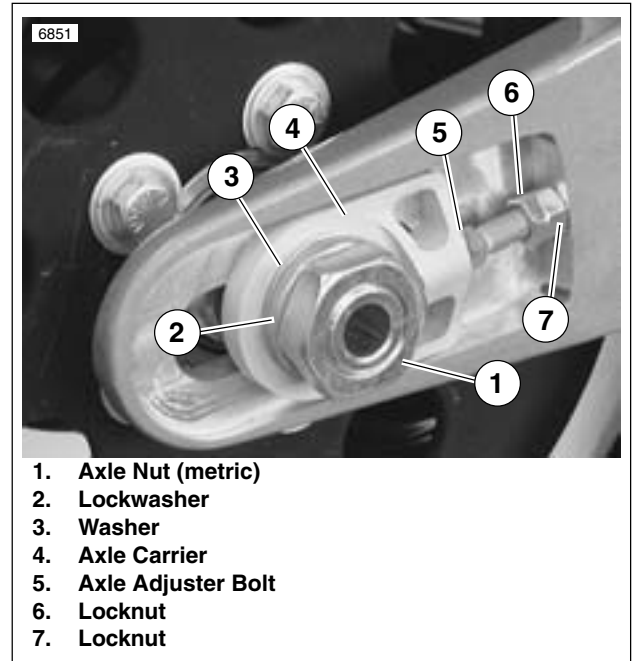
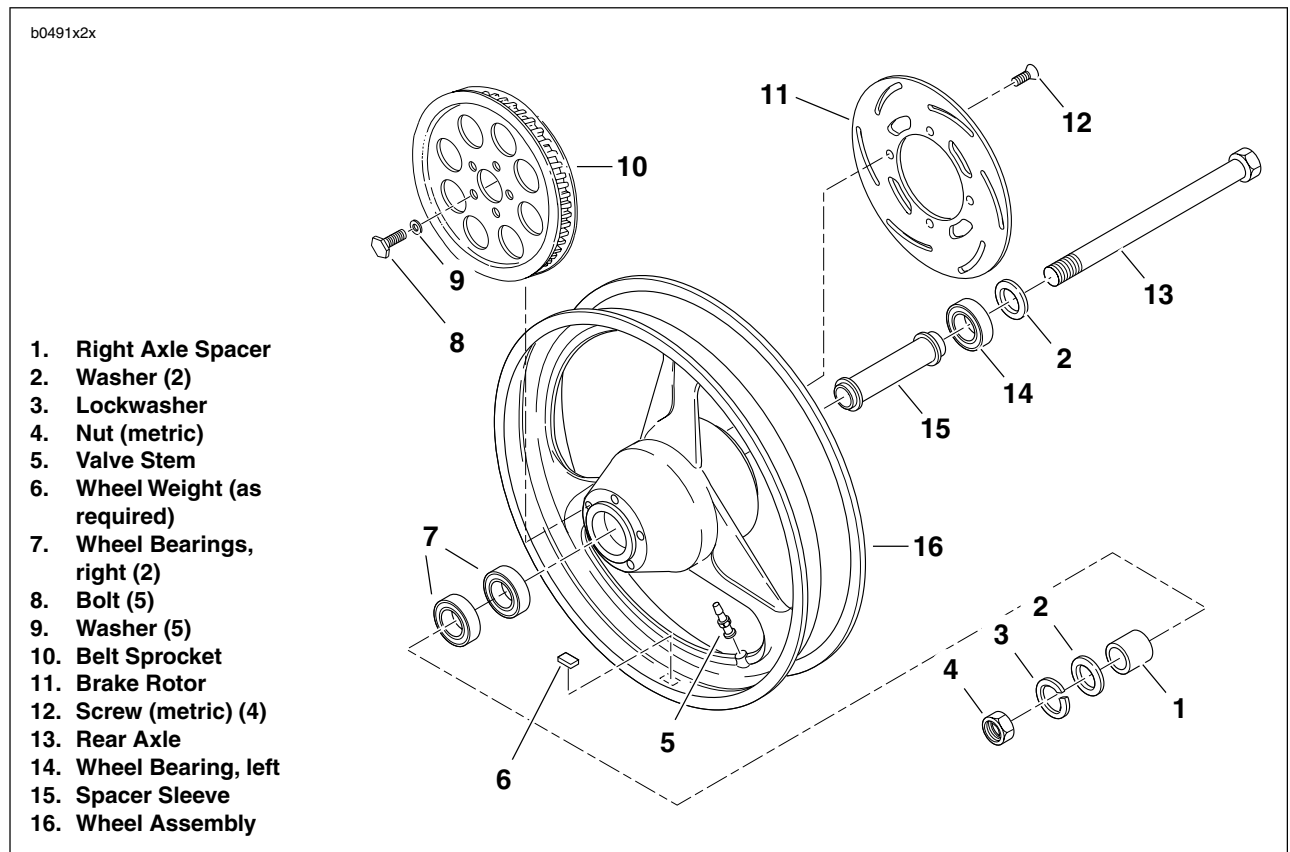

Figure 2-5. Rear Wheel Mounting
Figure 2-6. Rear Wheel
3. See Figure 2-5. Loosen rear axle nut (1) (metric).
4. Loosen rear axle adjuster locknuts (6, 7) and bolts (5) on both sides. Push wheel as far forward as possible.
6. See Figure 2-6. Remove rear axle nut (4) (metric), lockwasher (3), and washer (2). Pull axle (13) and washer (2) out from left side and remove wheel.
2. See Figure 2-6. Remove two bearings (7) from sprocket side of wheel.
3. Remove four screws (12) (metric) to detach rear brake rotor (11) from wheel hub.
4. Remove five bolts (8) and washers (9) to detach belt sprocket (10) from wheel hub.
1. See Figure 2-6. Install rear brake rotor (11) on side of wheel hub with room for a single wheel bearing. Place rotor surface listing minimum thickness specification away from wheel hub.
- b. Apply LOCTITE THREADLOCKER 271 (red) to each of the four screws (12) (metric).